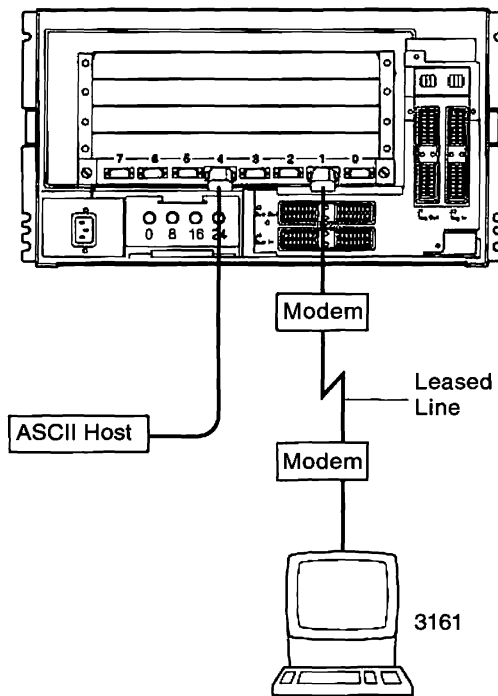

Figure 3-7. Sample ASCII Adapter Connection
- ASCII terminal connection (Figure 3-7 on page 3-9).
Figure 3-7 shows two possible connections to ASCII devices.